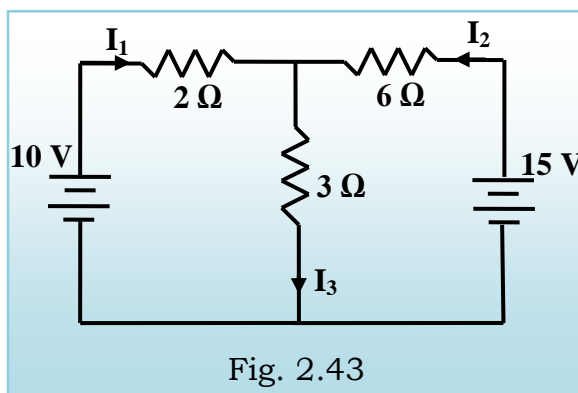

Fig. 2.43
**Example:** Find the current through and voltage across  $3 \Omega$  in fig. 2.43 using superposition theorem.